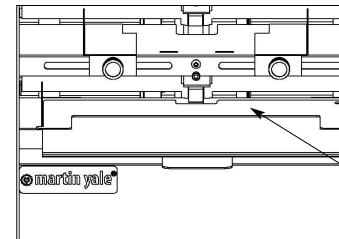

Figure 7
3. Use the 11.0" or 210mm top plates on top of the stack. (Fig. 7)